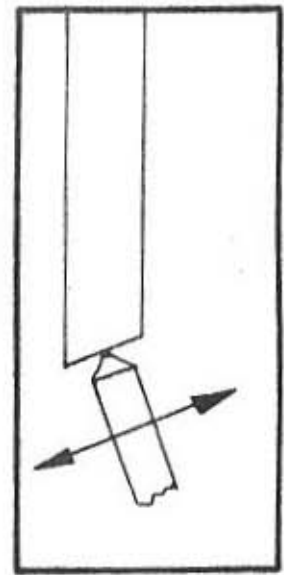

Fig. 13
Single angle dressing. Set the dresser to the operative position but do not secure lock (39). Release lock (40), then swivel the assembly until the indicator is opposite the angle required as shown on scale (41) and secure. To dress, oscillate the dresser across the wheel. Fig. 13.